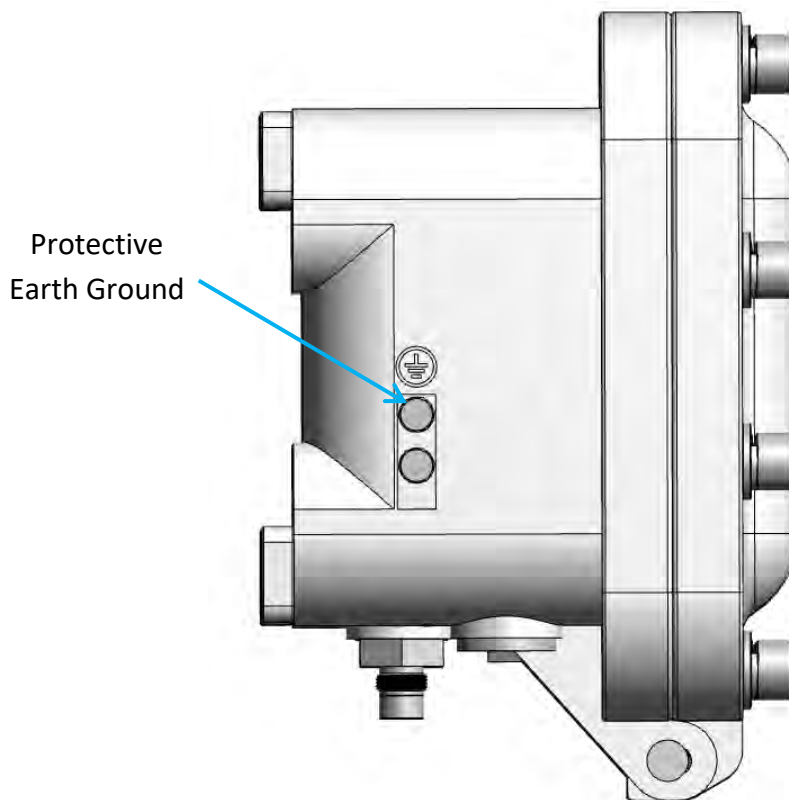

Figure 8: Kona Macro Ex Gateway PE Ground Connection Location
The Kona Macro Ex Gateway requires a permanently connected Protective Earth (PE) Ground conductor. The Protective Earth Ground connection is made through a double hole lug to the termination point located on the side of the enclosure as illustrated in Figure 8. The cable lug must have 6.35 mm $\varnothing$ holes on 16 mm centers (0.25" $\varnothing$ on 0.63" centers). The required ground cable gauge is #10 AWG (4 mm²) minimum. This ground connection to earth is always required.